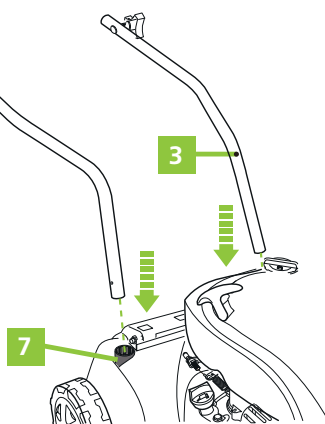

Figure 2
2. Insert the lower bars (3) into the cover brackets (7) up to the end. Make sure that the mounting holes of the lower bars are aligned with those of the brackets (Fig. 2).